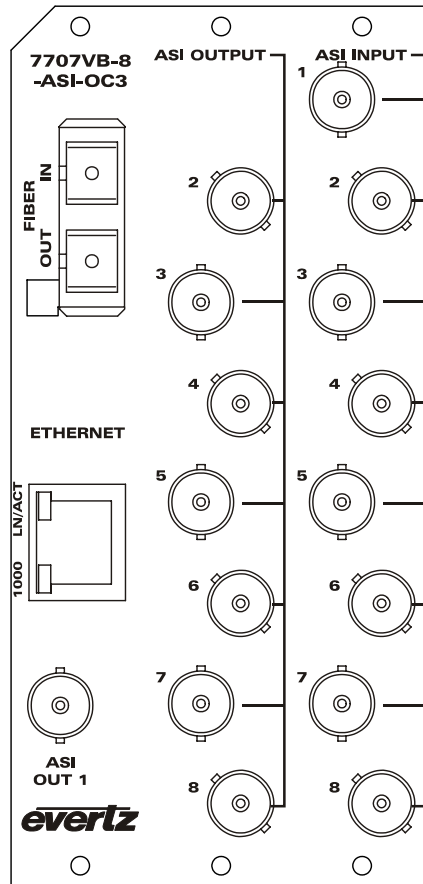

Figure 2-1: 7707VB-8-ASI-OC3 Rear Panel
- Figure 2-1: 7707VB-8-ASI-OC3 Rear Panel 3